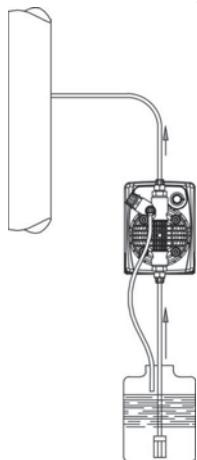
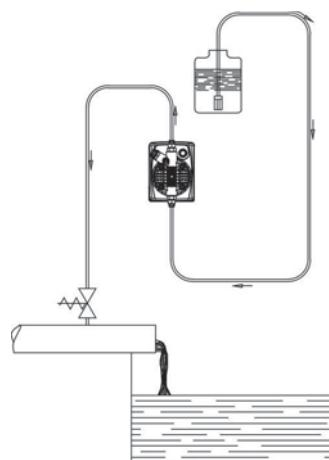

Fig. 5
Fig. 6
- c.- Install the pump in any way as shown in Fig. 5. If installed above the chemical tank, it is important that the pump height should not exceed the rated suction height, over the level of the chemical. When the process plant in which the pump is installed is operating at atmospheric pressure (no back pressure) and the chemical tank is situated above the plant (Fig. 6), the condition of the injection valve should be checked at regular intervals, because excessive wear and tear could cause additive to drip into the plant even when the pump is shut down. If the problem persist, install a properly calibrate counter-pressure valve (C) between injection point and the valve. In the case of liquids that generate aggressive vapours, do not install the pump above the storage tank unless the latter is hermetically sealed.